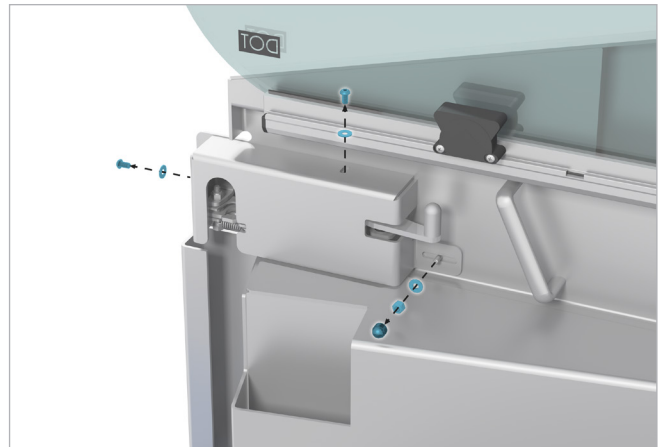

Figure 1 – Nut cover, nut, washer, and button head screw locations.
2. Locate the hardware removed in step 3 of latch cover removal. Using the 5/32 in. hex key, install the button head screws, tightening to a final torque of 75 in-lbs. See **Figure 1** for bolt location.
3. Locate the hardware removed in step 2 of latch cover removal. Using the 7/16 in. wrench, install the washer and nut, tightening to a final torque of 75 in-lbs. See **Figure 1** for nut and washer location.
4. Locate the hardware removed in step 1 of latch cover removal. Reinstall the plastic nut cover. See **Figure 1** for nut cover location.